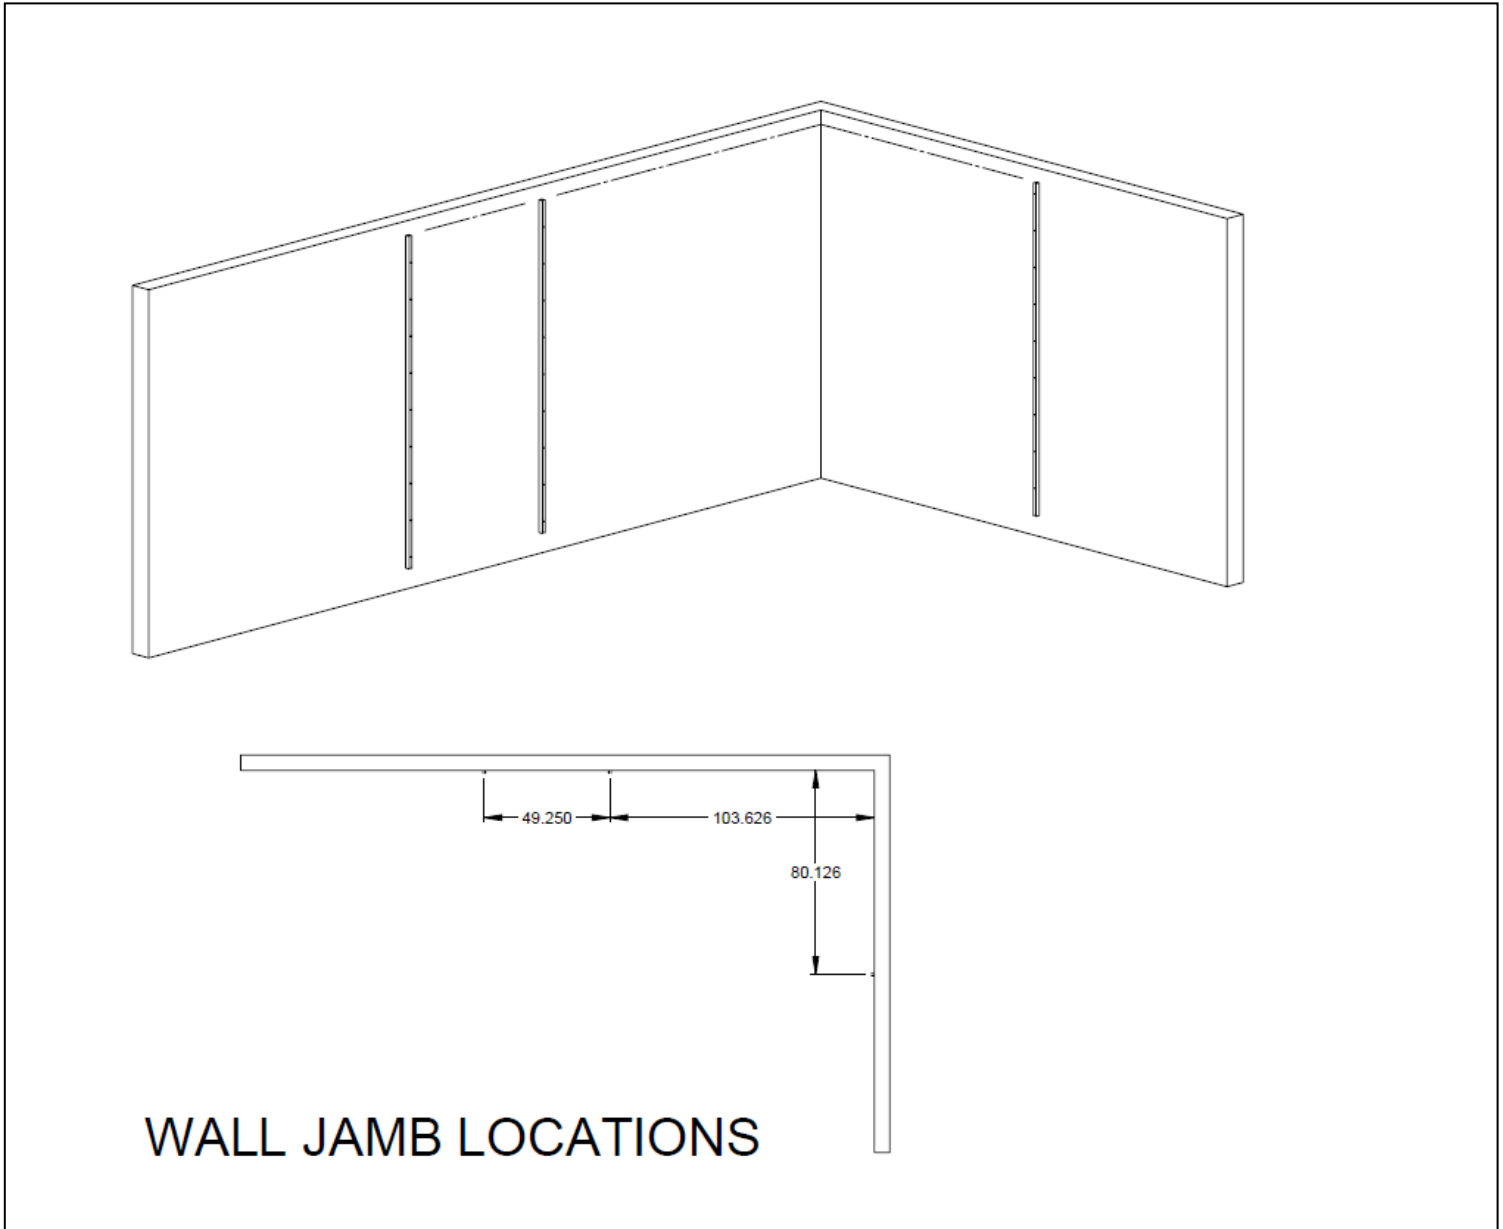

Figure 3
2. From this layout, locate and attach the wall jambs to the walls. **See Figure 3** (fasteners are to be obtained locally). To do this you will want to find the high point in the floor where your fitting rooms will be placed. Once located, take a post with a leveler attached at a half way point, and place against the wall. The top of the post will mark the top of your wall jambs. From this mark, you will then locate the remaining jamb locations. A laser level would work best for this application.